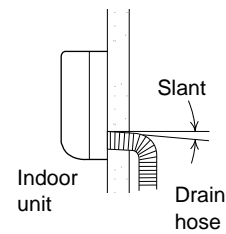

Fig. 39
- The drain hose should be slanted downward to the outdoors. (Fig. 39)